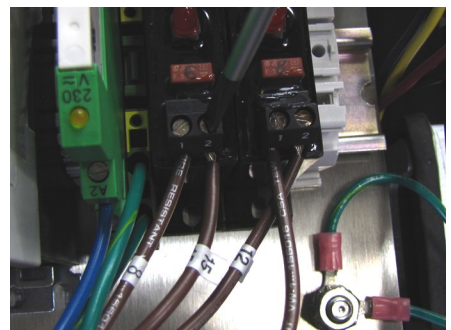

Figure 24
24. Reinstall the #15 brown wire as shown in Figure 24. Use a small flat head screwdriver to securely connect the wire.